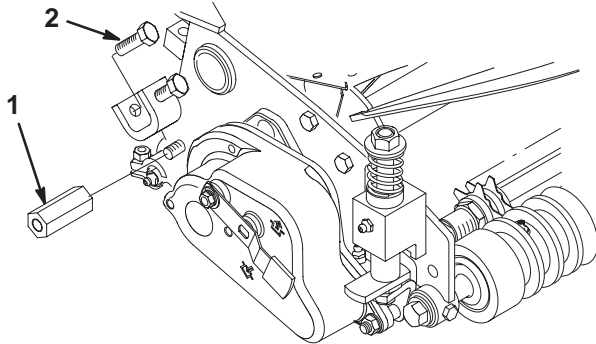

Figure 11
3. Thread a long hex extension (1.8" lg.) onto the carriage bolt (Fig. 11). Tighten the long hex extension securely against the cutting side plate.
Note: On cutting unit models 04470, 04471, 04480 and 04481 only, remove the lower bedbar adjuster bolts and install new special bolts reversed as shown in Figure 11. The bedbar may have to be removed to install the new special bolt.